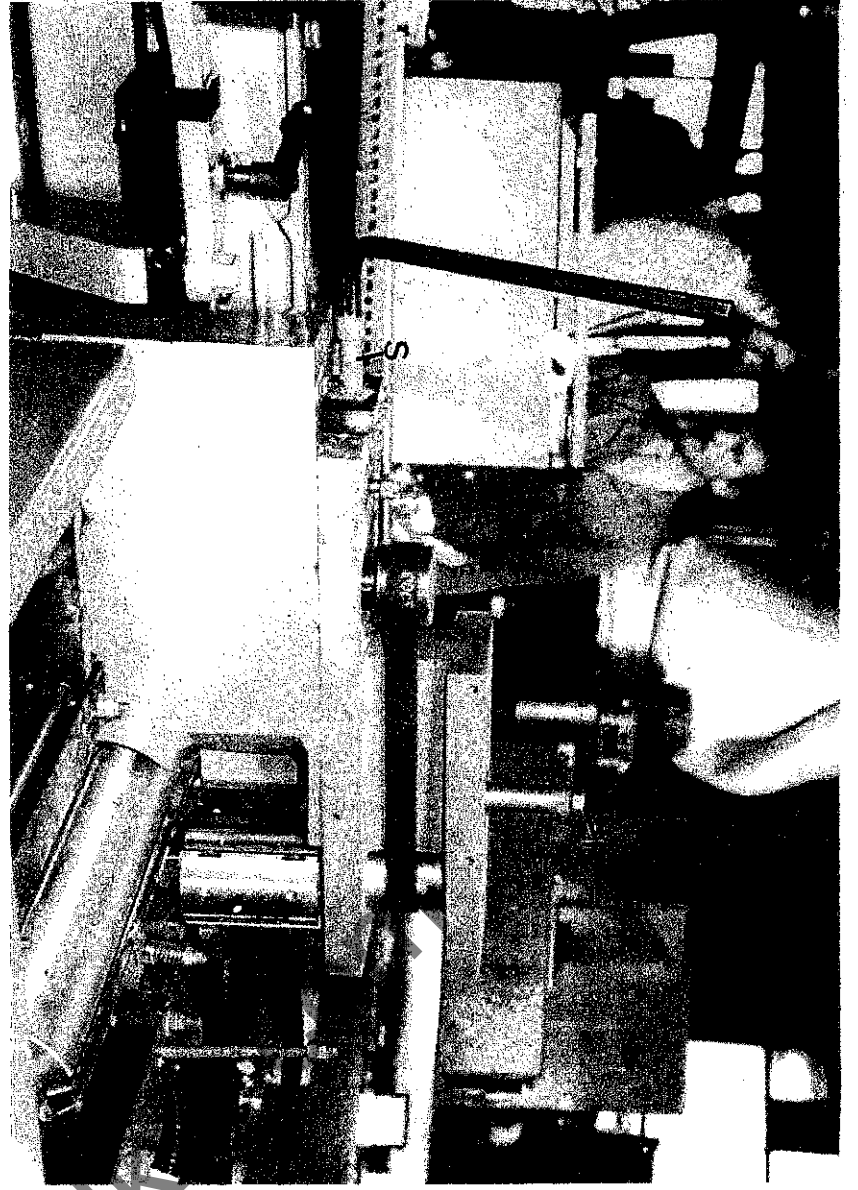

Fig 31
- 5) Loosen M12 nut "R" FIG.31.
- 6) Release tension on pulley by belt adjustER "S" FIG.31. Remove existing belt.